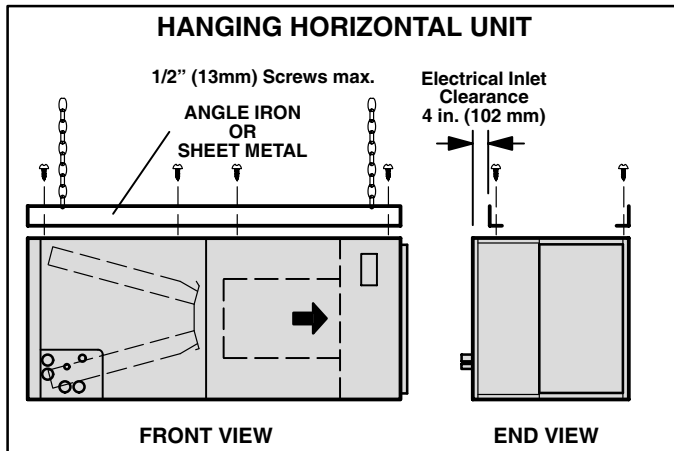

FIGURE 19
- 3- If hanging the unit, it must be supported along the entire length of the cabinet. If using chain or strap, use a piece of angle iron or sheet metal attached to the unit (either above or below) so that the full length of the cabinet is supported. Use securing screws no longer than 1/2" (13mm) to avoid damage to coil or filter. See figure 19. Connect return and supply air plenums as required using sheet metal screws.
- 13- If hanging the unit, it must be supported along the entire length of the cabinet. If using chain or strap, use a piece of angle iron or sheet metal attached to the unit (either above or below) so that the full length of the cabinet is supported. Use securing screws no longer than 1/2" (13mm) to avoid damage to coil or filter. See figure 19. Connect return and supply air plenums as required using sheet metal screws.